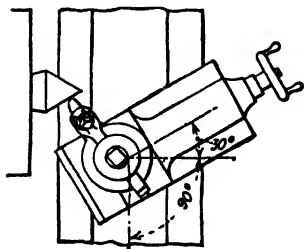

Fig. 16-14. Setting compound rest.
To illustrate (2): Suppose it is required to turn a lathe center 60 deg. included angle, the angle with the center line is then 30 deg. Swivel the rest to the right, 90 deg. from its original position; then swivel it 30 deg. more as shown (Fig. 16-14). If